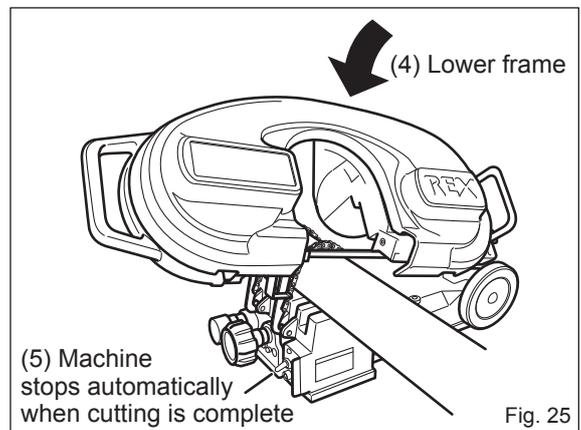

Fig. 25
(4) When the blade has reached the proper speed of rotation, slowly place the blade against the top of the workpiece. (Fig. 25)
(5) From this point on, the unit will cut automatically. When cutting is complete, the switch will shift to the "OFF" position and the motor will stop. (Fig. 25)